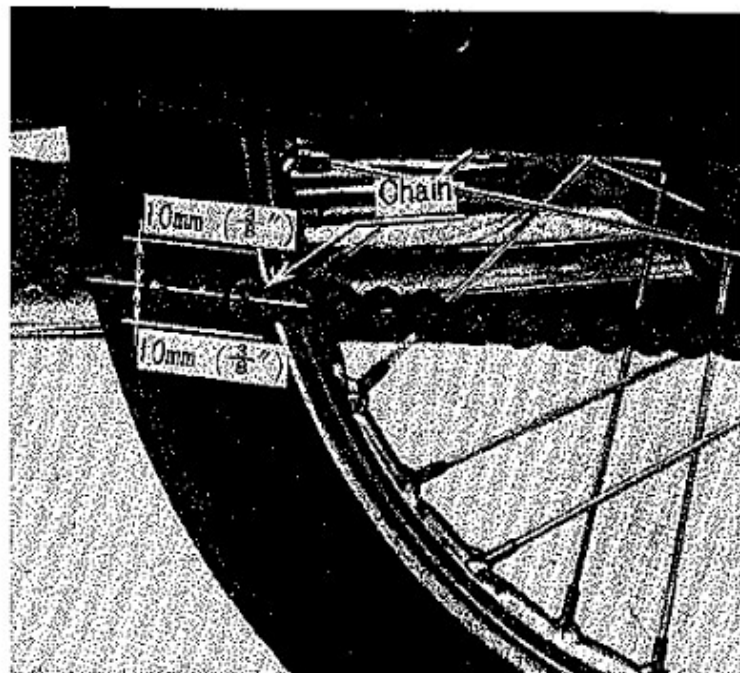

Fig. 9
- a) Chain adjustment is correct when chain slack is approximately 10 mm. (3/8") up or down, as refer to (Fig. 9).